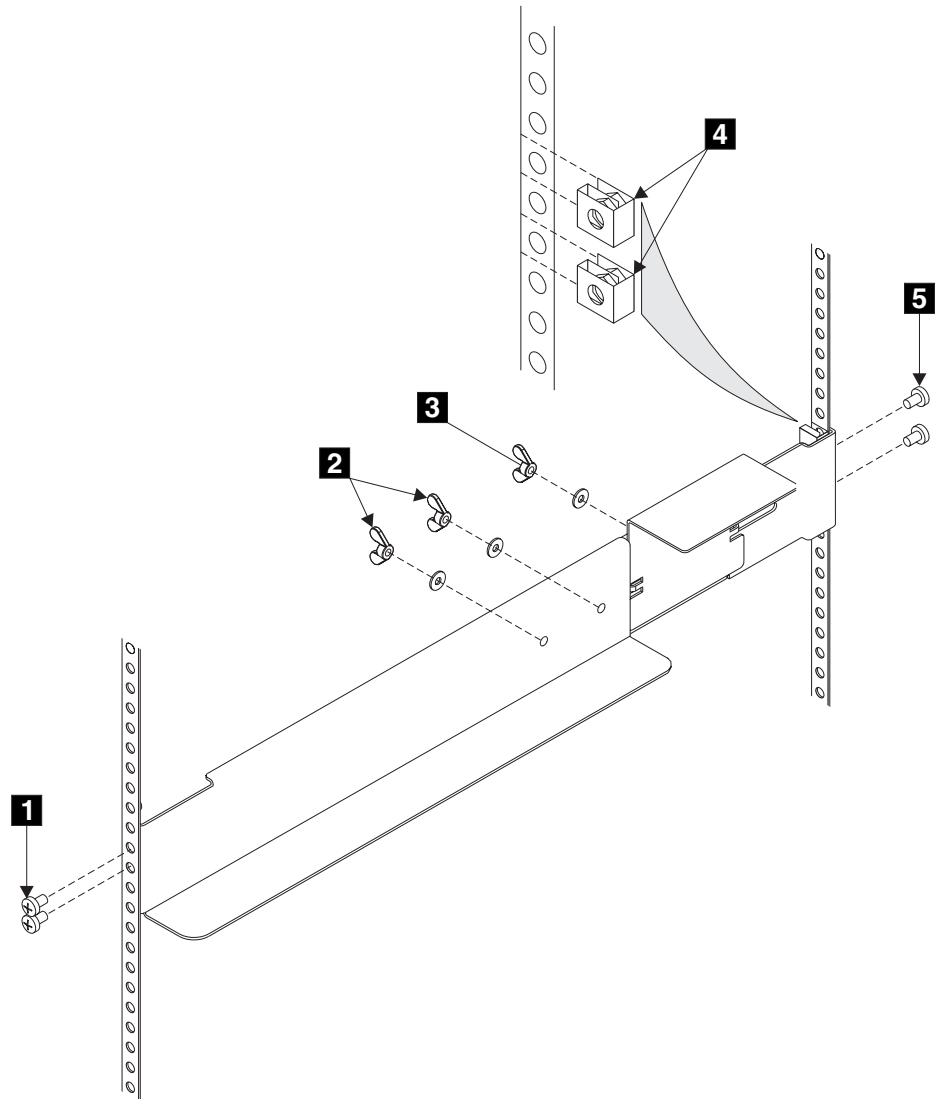

Figure 315. Removing support rails for a 2145 uninterruptible power supply from the rack
2. Loosen the two adjustment wing nuts **2** (Figure 315 on page 639).